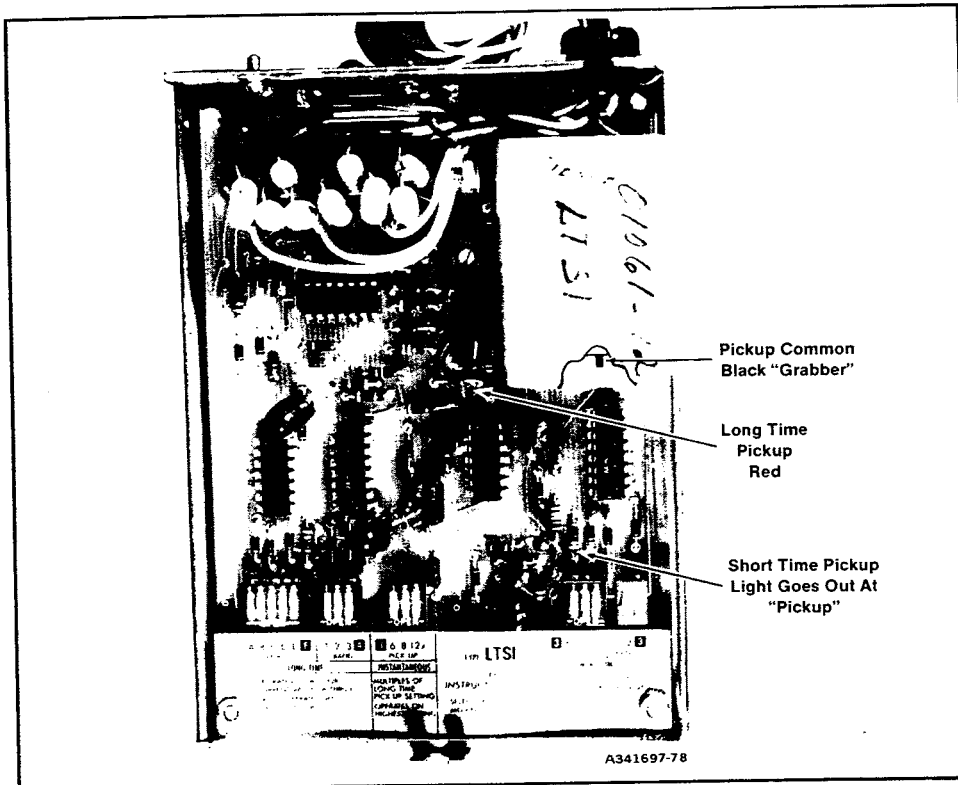

Figure 18. Limitrip Circuit Board Showing Test Points
The trigger test points are not brought out on the Limitrip device, so the pick-up cord set is provided with "Grabbers" to connect directly to the circuit board inside the device. See **Figure 18** for the correct location of the test points. Connect the red "Grabber" to the long time pick-up test point and the black "Grabber" to the pick-up common test point. The red banana plug of the cord set connects to the jack assembly on the red leads of the trip device and the black banana plug to the jack assembly on the black leads of the device.
1. Connect the Red GRABBER to the SHORT TIME PICK-UP test point. See **Figure 18**.
1. Connect the test set to the device as described under the heading "Connections." Connect the red GRABBER to the LONG TIME TEST POINT shown in **Figure 18**.